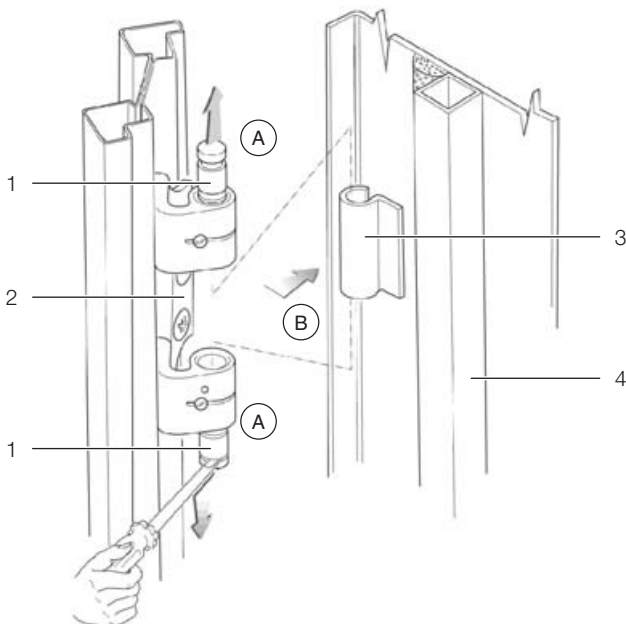

Fig. 21: Door hinge – dismantling
- Loosen the hinge pins from the four door hinges by raising them with an appropriate tool (e.g. screwdriver). Pull the pins out of the hinge pin holding fixture up to the catch (Fig. 21, Step A). Begin with the lowest door hinge.
- Remove the server enclosure door (Fig. 21, Step B).